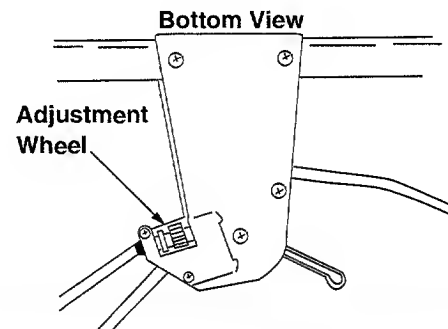

Figure 25
- Rotate the adjustment wheel clockwise to tighten the cable. See Figure 25.
- Rotate the adjustment wheel counter-clockwise to loosen the cable. See Figure 25.